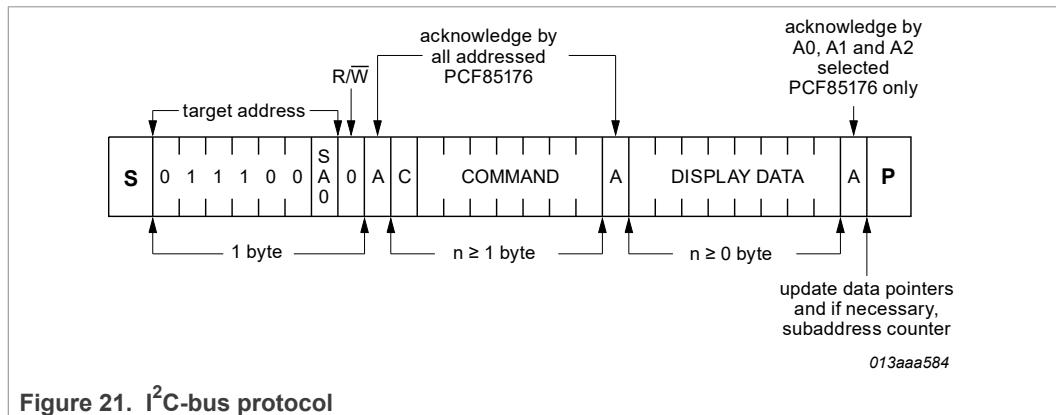

Figure 21. I²C-bus protocol
The I²C-bus protocol is shown in Figure 21. The sequence is initiated with a START condition (S) from the I²C-bus controller which is followed by one of the two possible PCF85176 target addresses available. All PCF85176 whose SA0 inputs correspond to bit 0 of the target address respond by asserting an acknowledge in parallel. This I²C-bus transfer is ignored by all PCF85176 whose SA0 inputs are set to the alternative level.